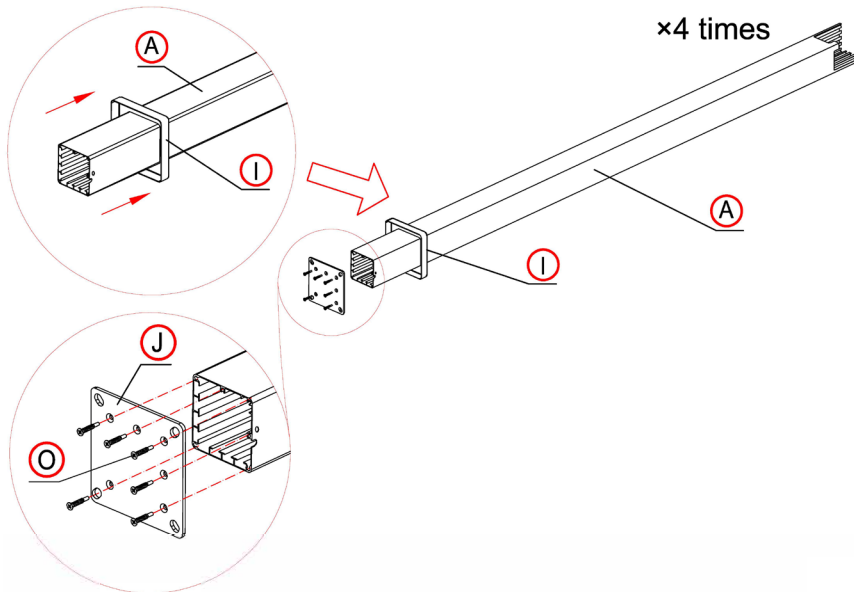

Figure 2.
Slide a collar (I) over the bottom of one of the leg sections (A) as shown in figure 2, with the rounded part of the collar facing towards the top of the leg. Position base plate (J) over the bottom of the leg section and affix to the leg using six bolts (O). Repeat this process for the other three legs.